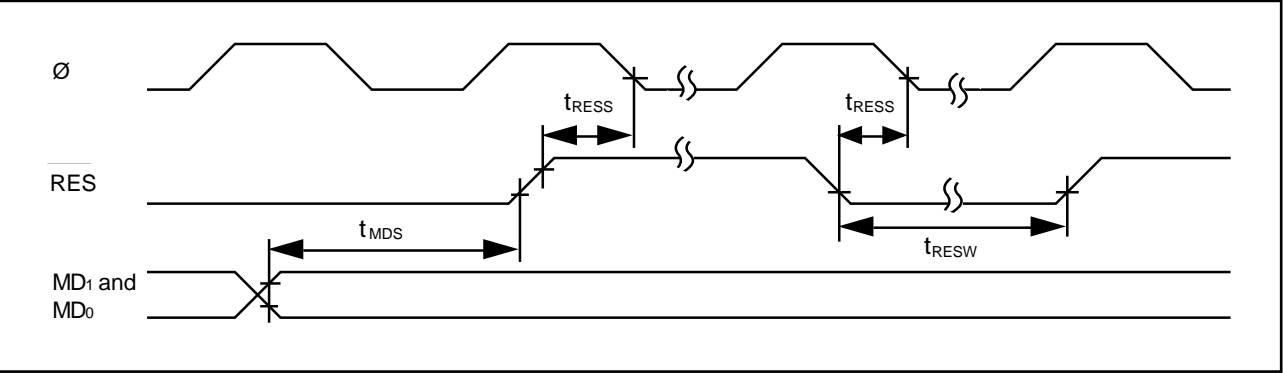

Figure 15-7. Reset Input Timing
15.3.2 Control Signal Timing	Figures 15-7 to 15-10